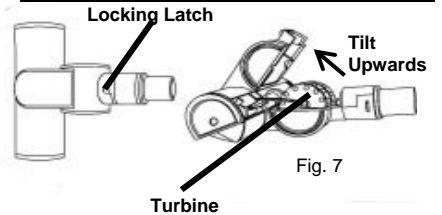

Fig. 7
- Slide locking latch forward then tilt the top housing of the brush upwards. The top housing is hinged and will tilt up approximately 45° only. (Fig. 7)